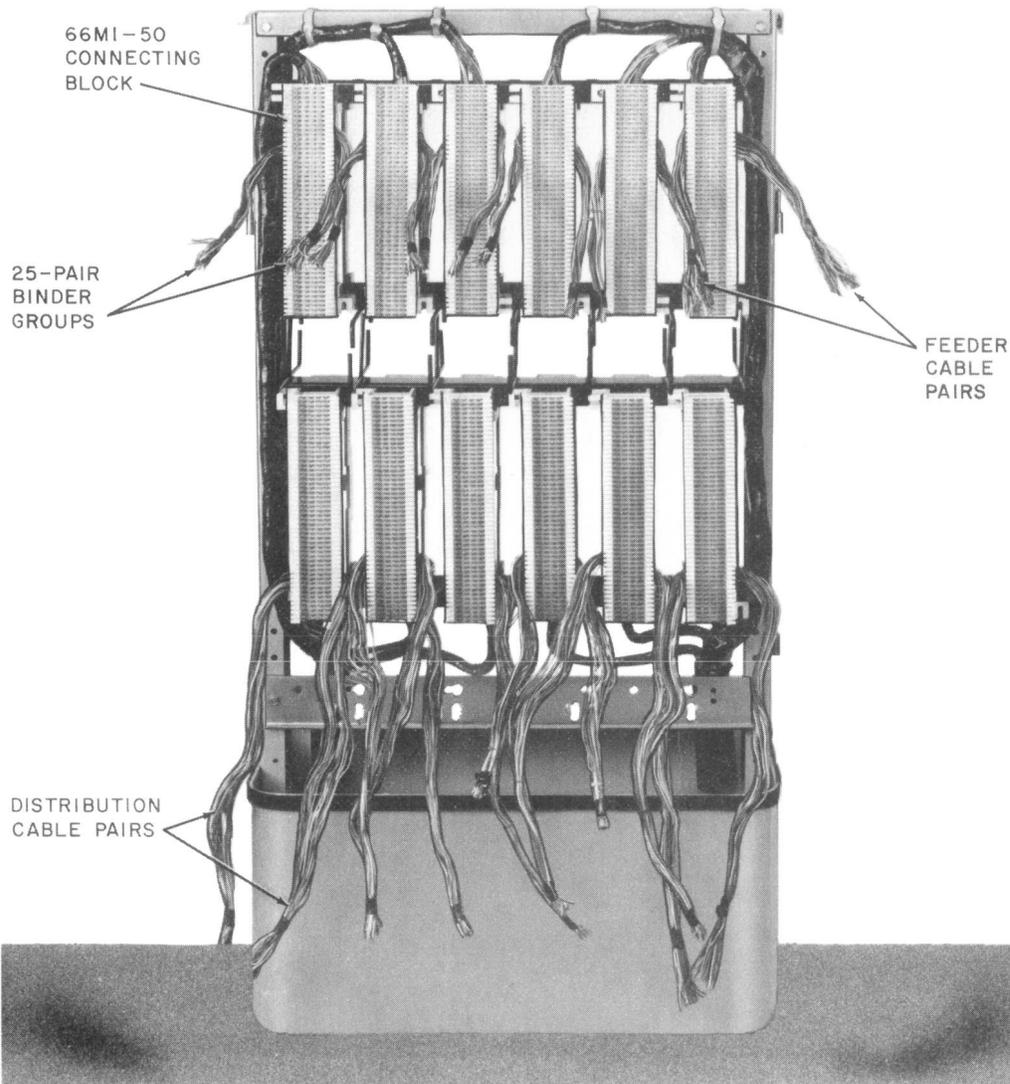

Fig. 20—66M1-50 Connecting Blocks Placed on 89B Brackets (UP-1254)
10.04 Place the appropriate binder groups (25 pairs) in the opening provided in the 89B brackets. *Place the 66M1-50 connecting blocks on the 89B brackets (Fig. 20) so that vertical slot is at bottom right corner.* This prevents back plate from releasing during punch-down operation allowing the connector body to slide down, releasing the terminal lug.